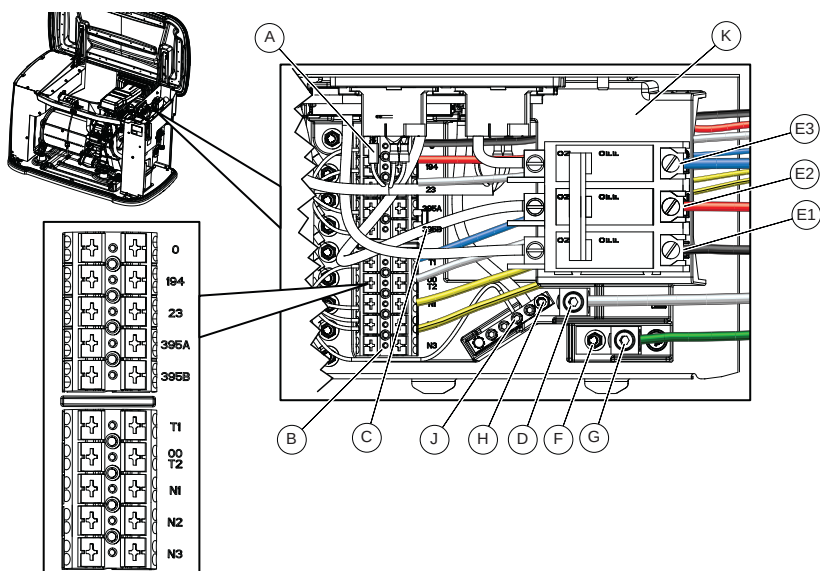

Figure 6-1. Electrical Wiring Connections
See Figure 6-1. The electrical wiring enclosure is located behind an access panel on intake end of unit. Remove intake side panel as directed in Removing Intake Side Panel, and then remove access panel. Connect wires according to diagram and tables.
1. See Figure 6-1. Strip insulation from wire ends. Do not remove excessive insulation. Route sense wires under customer connection block (K), and connect to sense wire terminal block (B). Push down on spring loaded connection point with a flat head screwdriver, insert wire, and release.
2. Using the same process, route control wires under customer connection block, and connect to control wire terminal block (A).
See Figure 6-1. To install a remote generator shutdown switch: remove the terminal block jumper (C) from between terminals 395A and 395B, and connect control wires to these terminals for the remote generator shutdown switch.
2. See Figure 6-1. Loosen lugs at neutral (D), ground (G), and power wire (mains) terminals (E1, E2, and E3).
See Figure 6-1. Connect a suitably sized system bonding jumper in accordance with NEC Table 250.102(C)(1) from neutral bar (J) to ground stud (F). Tighten ground stud nut to 35 **in-lb** (3.95 Nm). This is required when generator is installed as a separately derived system. Generator will also require a connection to a grounding electrode system in accordance with NEC Article 250.64. It is not required when generator is a backup source in